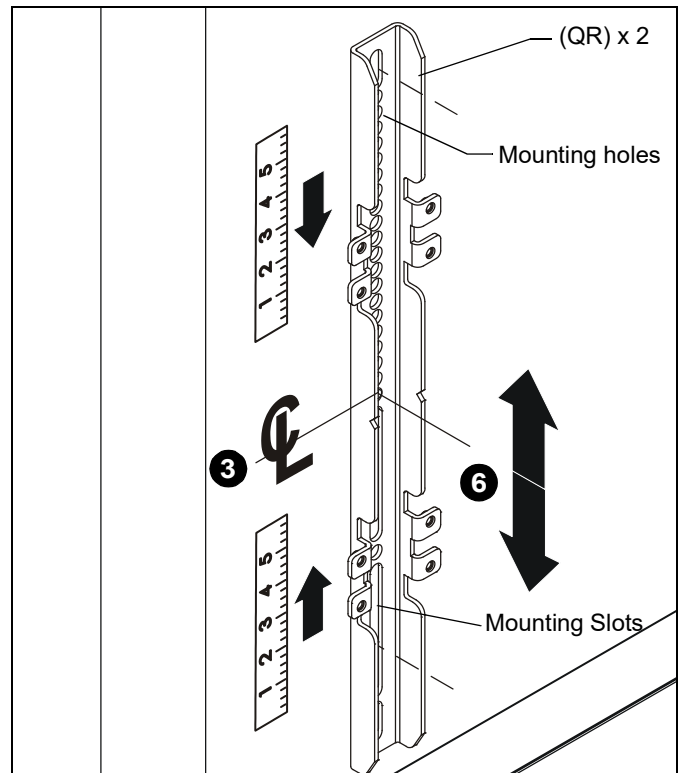

Figure 8
- Determine and mark the vertical center position between the Left side Upper and Lower mounting holes in display. (See Figure 8)
- Determine and mark the vertical center position between the Right side Upper and Lower mounting holes in display. (See Figure 8)
- Orient vertical mounting bracket (QR) so that mounting holes are on top and mounting slots are on bottom. (See Figure 8)
- Align mounting holes in vertical mounting bracket (QR) with upper and lower mounting holes in display.
- Adjust vertical mounting bracket (QR) position until mark made in Step 1 aligns with center mark in vertical mounting bracket (QR).